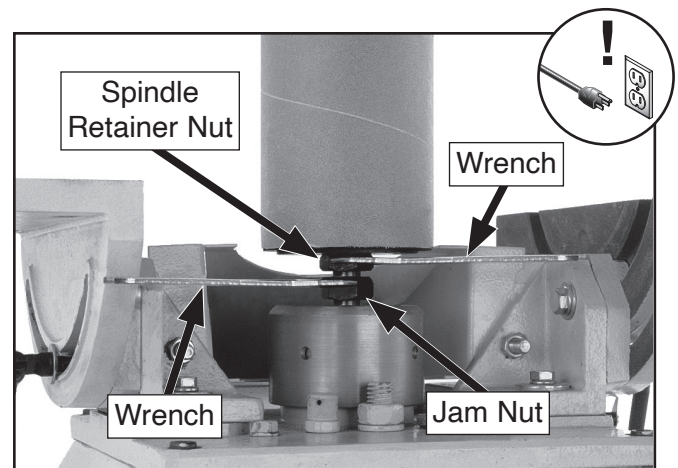

Figure 28. Spindle removal (table removed for clarity).
2. Use included wrenches to hold jam nut stationary (see **Figure 28**) while loosening spindle retainer nut, then rotate spindle counterclockwise to remove.